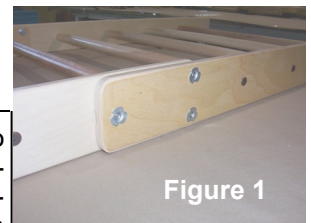

Figure 1
- Position the top and bottom sections of the ladder on the floor. Position the top and bottom so that the three bolt holes in the bottom of the top section will be aligned with the three t-nuts in the top of the bottom section. Slide the top section into the bottom section as shown in Fig. 1. Be sure that the head of the screw holding the ladder rung slides into groove in the bottom section. Align the bolt holes with the t-nuts. Place a 3/8" flat washer on six of the 3/8 x 1-1/2" bolts. Start the bolts from the inside, through the holes in the top section and screw it into the t-nuts in the bottom section. Start all six bolts then tighten securely with the hex key wrench provided.